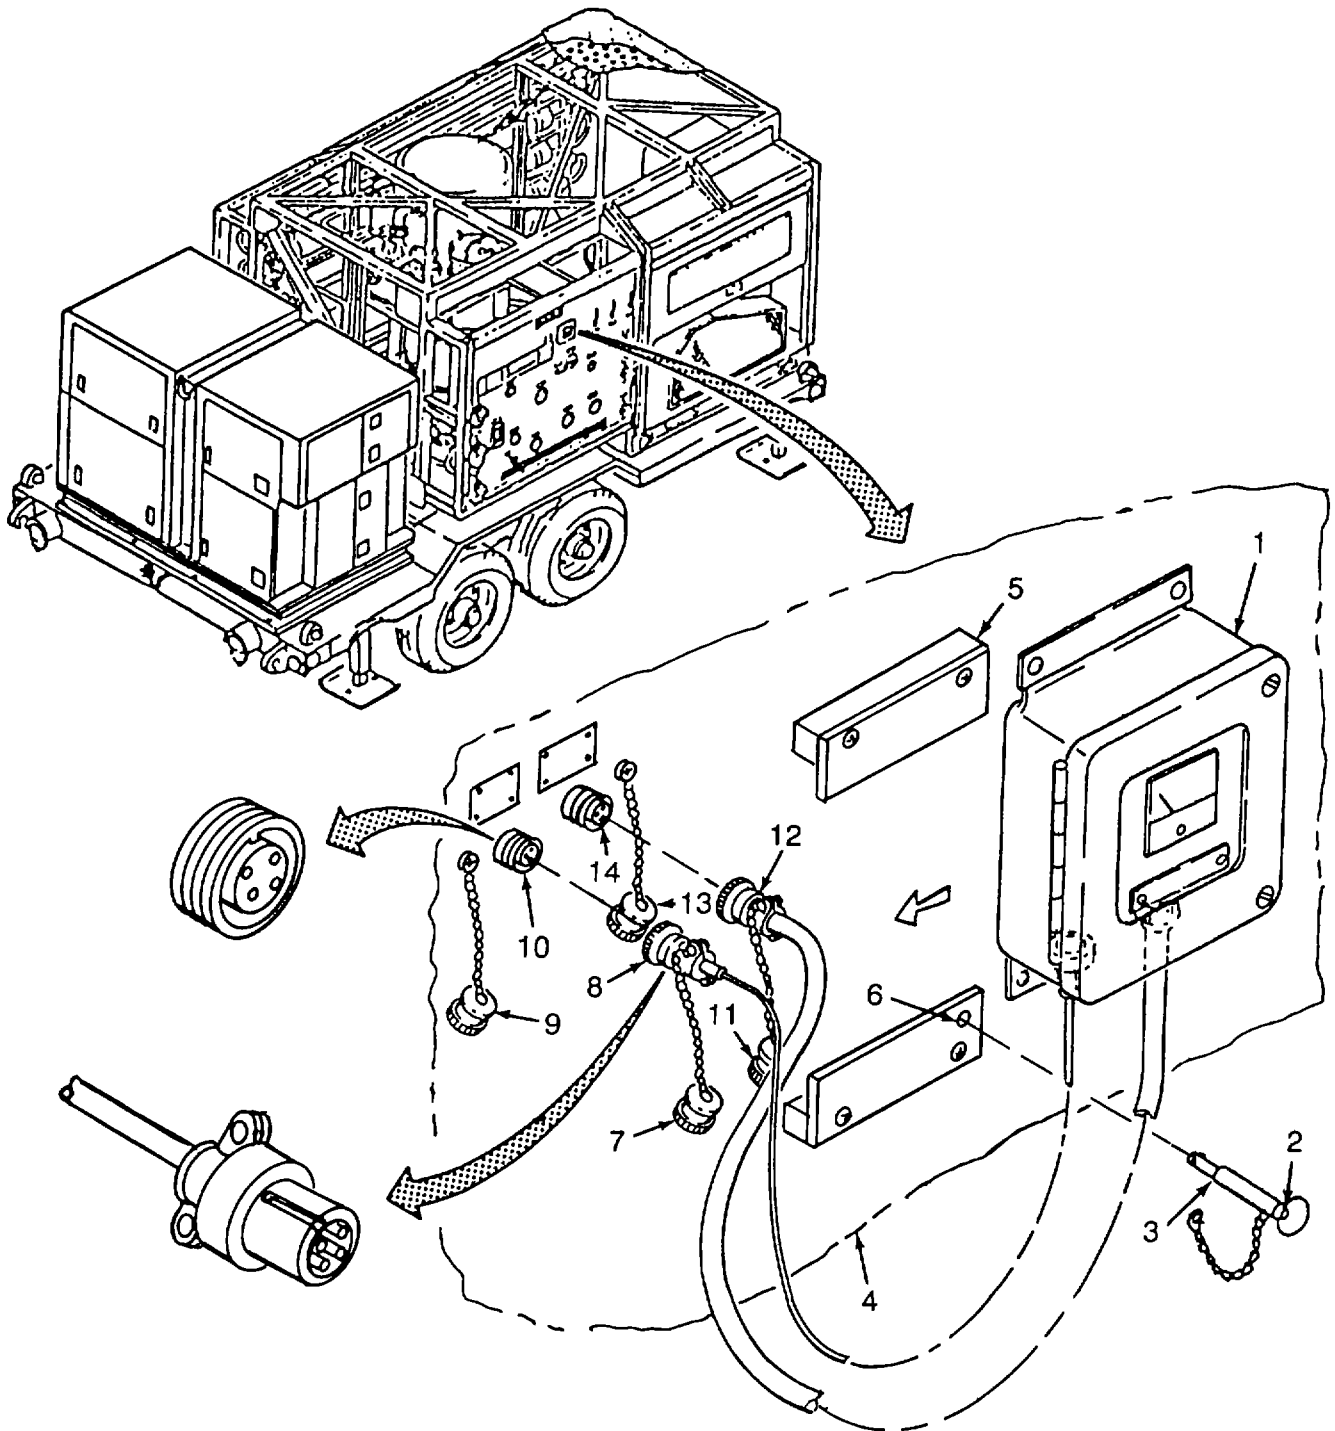

Figure 2-33. TDS Monitor Installation.
- I. Install TDS Monitor. Refer to figure 2-33.